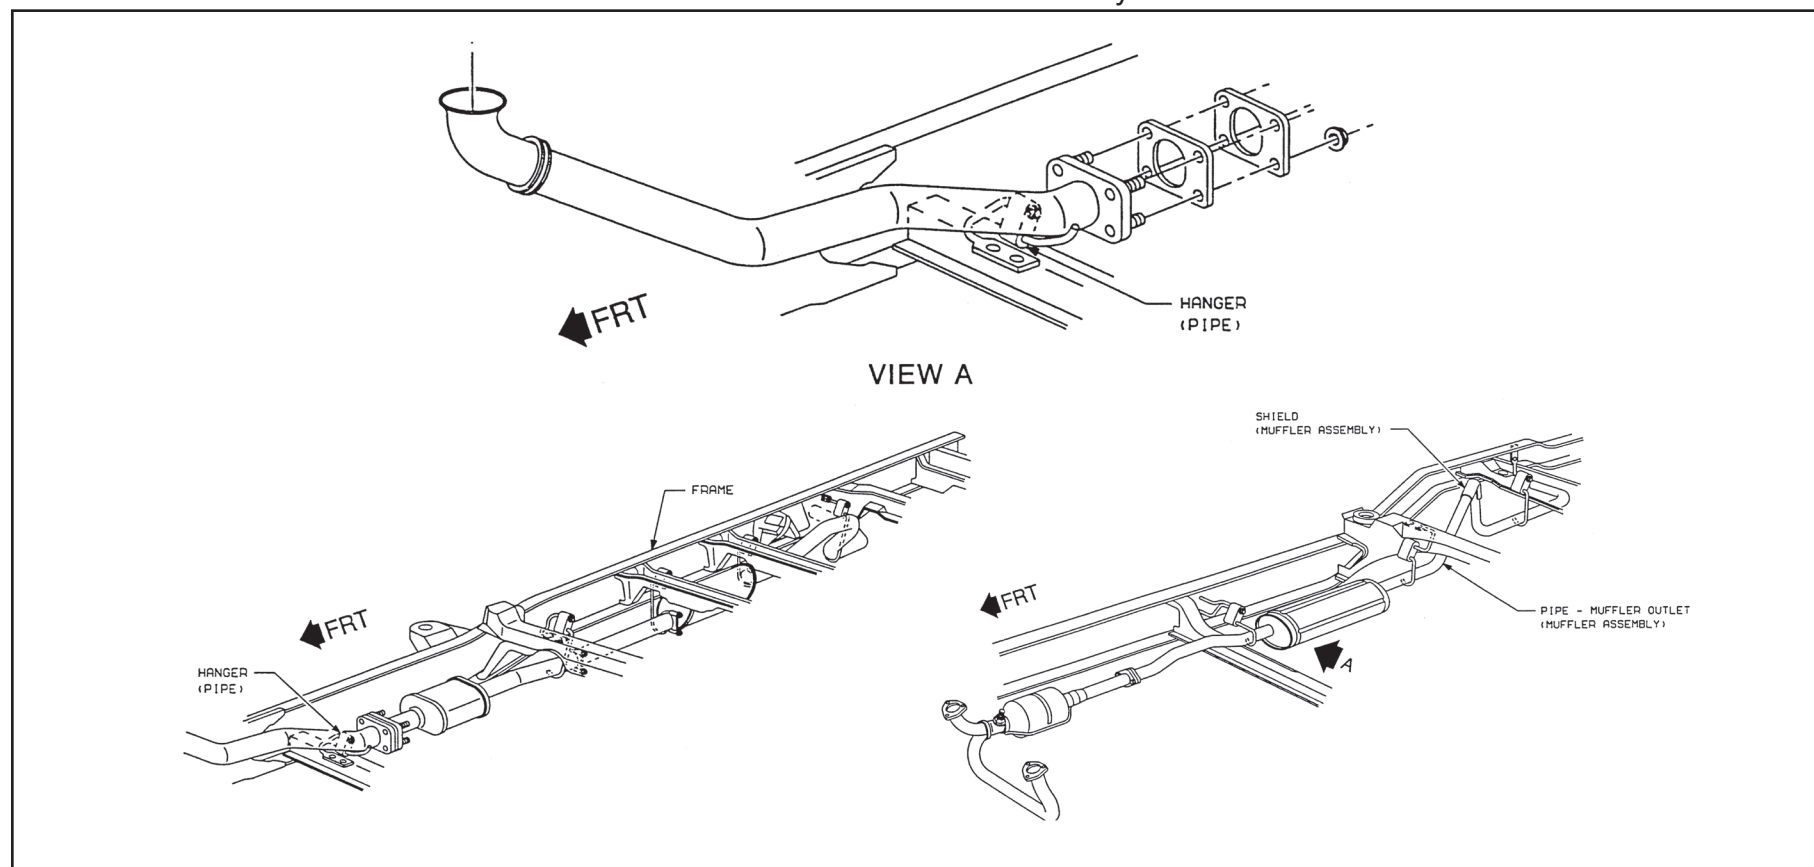

Figure 32
- The exhaust system rotates with the engine. This requires a minimum clearance of 17 mm (0.7 in.) from the floorpan and frame (Figure 32).
- When conversion is complete, check for leaks and restrictions in the exhaust system (Figure 32). Repair as required.